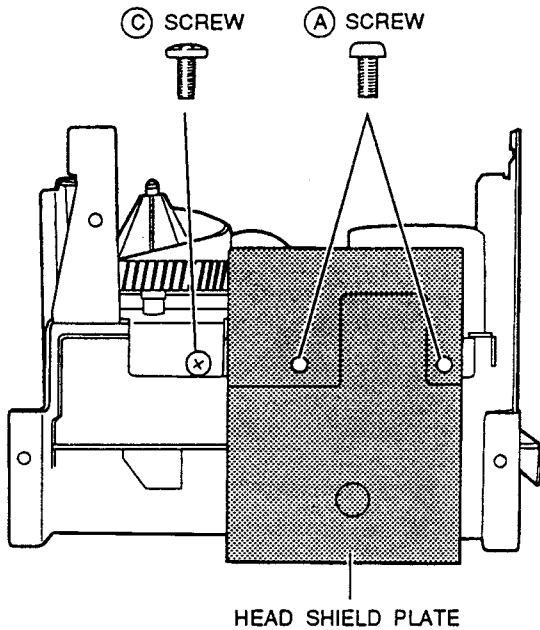

Fig. 3-1
3) Remove the (C) and two (D) screws and remove the SIDE PLATE (R) (refer to Fig.3-1 and 3-2).
4) Remove the two (E) screws and then remove the SIDE PLATE (L).
- 1) Remove the two ⓐ screws and remove the HEAD SHIELD PLATE as shown in Fig. 3-1.